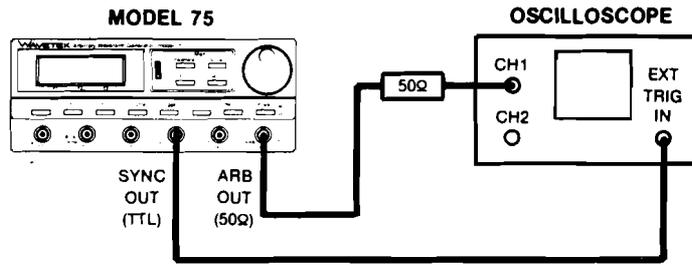

Figure 5-5. Output Waveform Verification Equipment Connection
- Interconnect the Model 75 and test equipment as shown in figure 5-5. Use the 50Ω termination with the carbon element in this step.